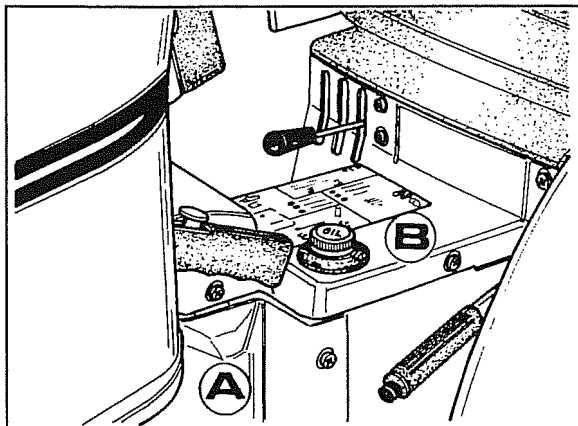

Fig. 1
- 1 Remove the centre cover **B**, side panel **A** and the panel on the opposite side as shown in Fig. 1.